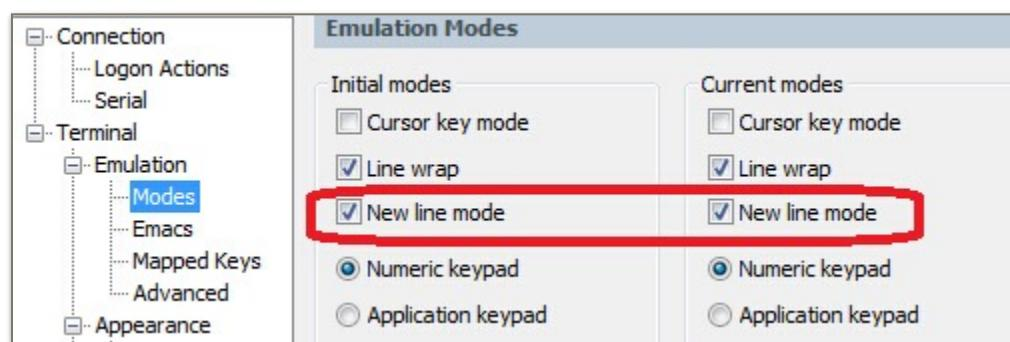

Figure 2-2. New Line Mode
- AT commands have to be capitalized, and must end with \r\n, as Figure 2-2 shows.